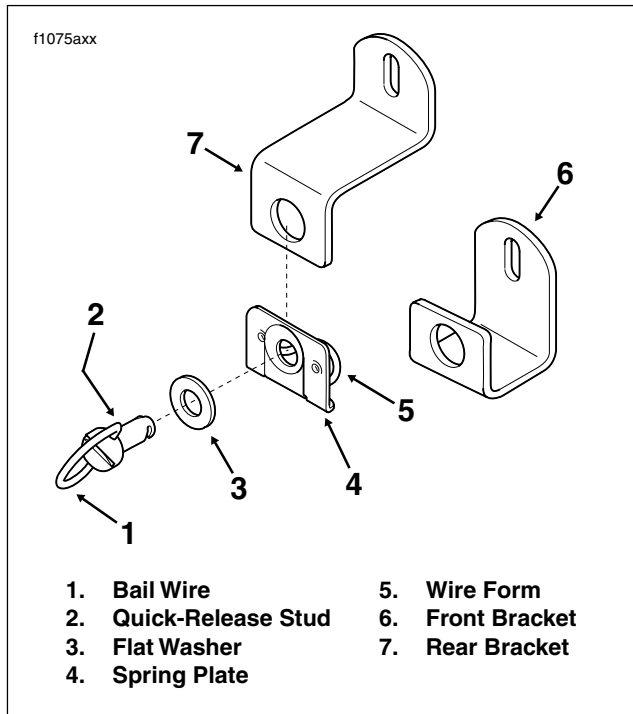

Figure 2-136. Saddlebag Quick-Release Fasteners
2. Grasp bail wire inside saddlebag and rotate each stud a full 1/4 turn in a counter-clockwise direction. Remove bail head studs with flat washers. See Figure 2-136.